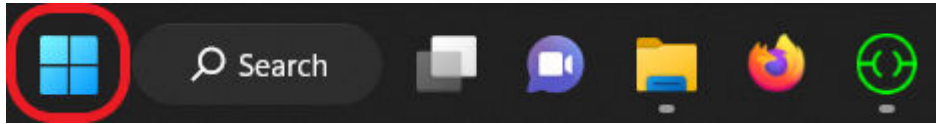

Figure 12: Windows® 11 'Start' button
1. Click the 'Start' button in your 'Task Bar' – highlighted in Figure 12 below – to bring up the 'Start Menu.'